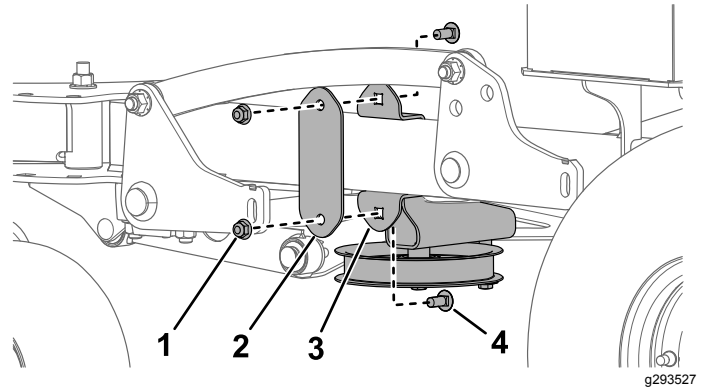

Figure 6
3. Secure the mounting bracket to the left machine frame tube, between the plates welded to the tube, using the plate, 2 carriage bolts, and 2 nuts (Figure 6). Torque the bolts to 37 to 45 N·m (27 to 33 ft-lb).